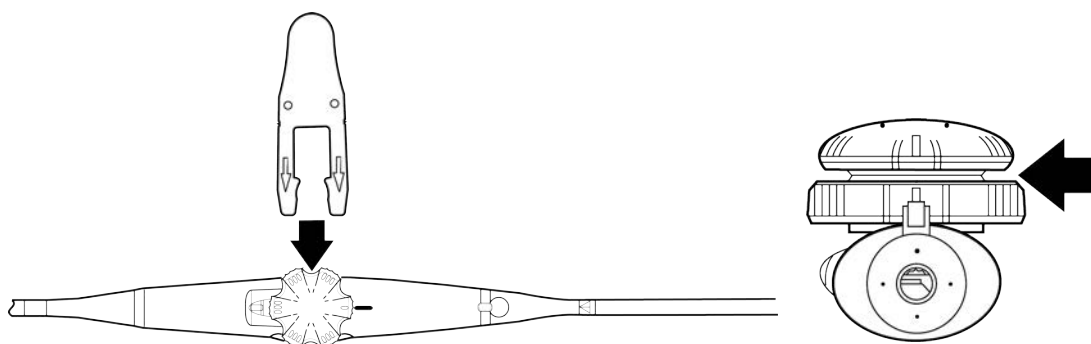

Figure 4-3 Insertion of the fork adapter
- 2 Insert the fork adapter securely in between the flexion control wheels as shown in Figure 4-3. You will feel the fork adapter snap into position and may hear a click.